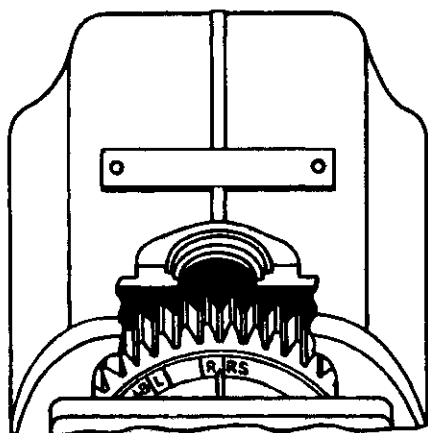

Figure 5. Alignment of Timing Marks on Distributor Gear —
c. Six cylinder, retard breaker types — The timing rib on the distributor block MUST lie between the "L" and "LB" or the "R" and "RB" marks on the gear, and should be nearer to the "LB" or "RB" mark, depending on magneto rotation. (See figure 5.)